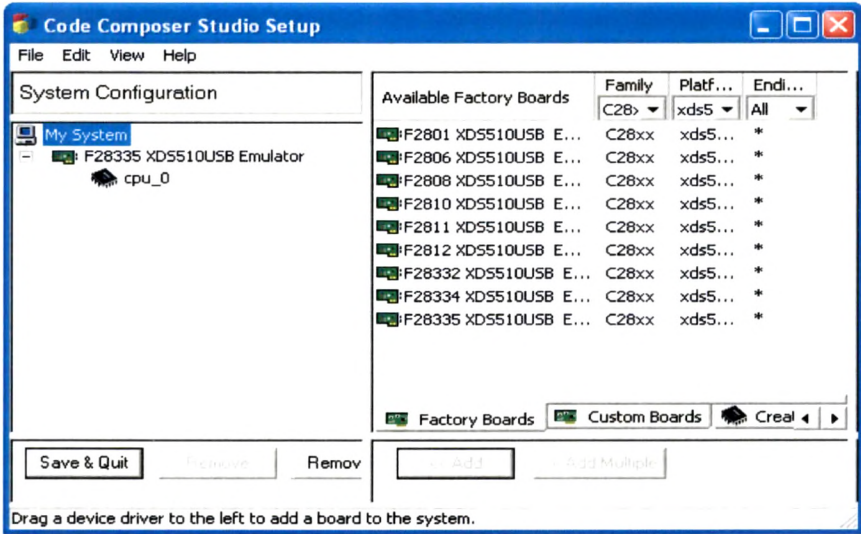

Fig. 6.3 Emulator selection
Step 2: Select family, platform and add to system Do the settings as shown in Fig. 6.3.